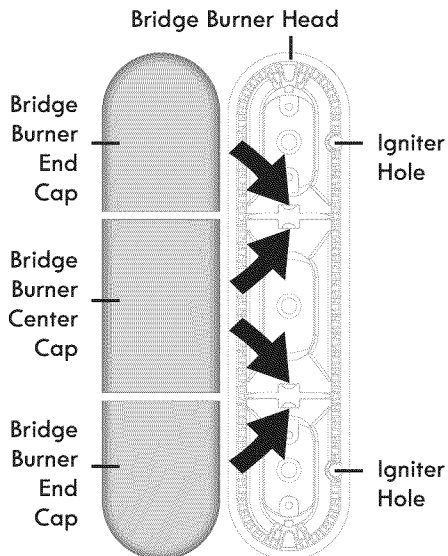

Figure 3
3. Install Burner Caps, these include one Bridge Burner Center Cap (rectangular shaped) and the two Bridge Burner End Caps (The Bridge Burner End Caps will fit either the front or rear Bridge Burner Head locations). Make sure that the tabs located under the Bridge Burner Caps fall into the slots located in the Bridge Burner Head (See arrows in Figure 3) and that all the Bridge Burner Caps lie flat and evenly on the Bridge Burner Head.